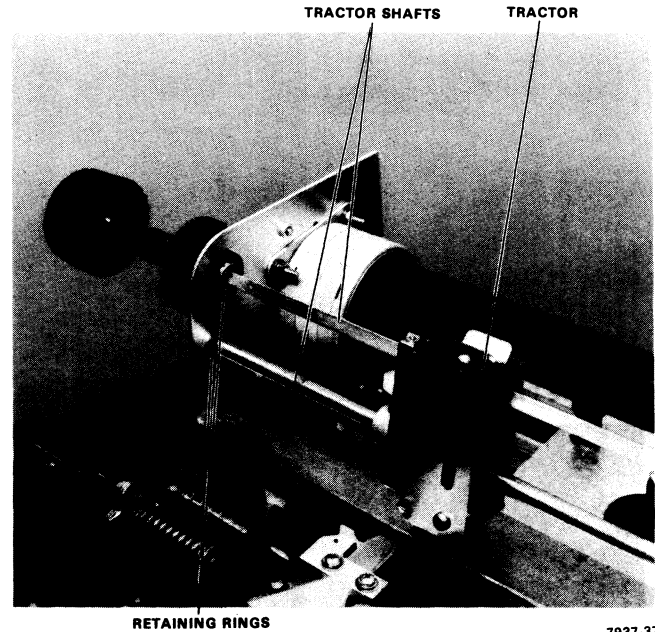

Figure 7-27 Tractor Removal
3. Remove the two retaining rings (Figure 7-27) on the left-hand side of the tractor support shaft and drive shaft.
4. Position the tractor shafts in the side plates and secure them with three retaining rings (Figure 7-27).